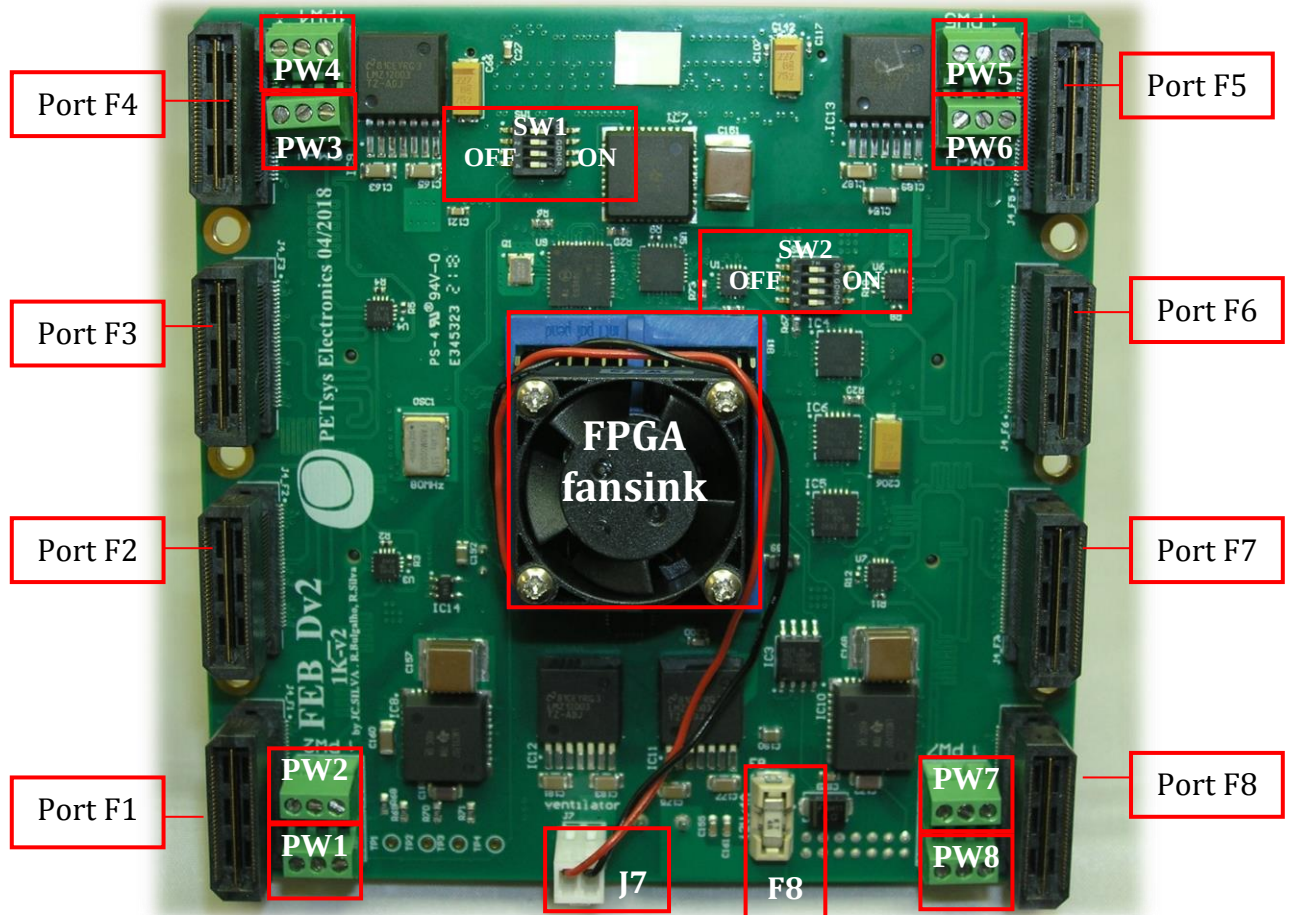

Figure 3 – Main components on bottom side of FEB/D_v2 set
(!) Important note: *If for some reason it needs to be re-assembled it MUST solely be inserted on the motherboard exactly as shown by the following photo, i.e., J6 and J5 connectors MUST mate respectively with connectors J5 and J6 of the motherboard, otherwise fuse F8 (see Figure 3) will either degrade or blow up!*
- c) *When a FEM-128 is plugged on Port F1 of FEB/D_v2 (see Figure 3) ASIC channel ranges from 0..63 (ASIC0) and 64..127 (ASIC1). When plugged on Port F2, ASIC channel ranges from 128..191 (ASIC2) and 192..255 (ASIC3). When plugged on Port F3, ASIC channel ranges from 256..319 (ASIC4) and 320..383 (ASIC5), and so on until Port F8, i.e., 896...959 (ASIC14) and 960..1023 (ASIC15).*